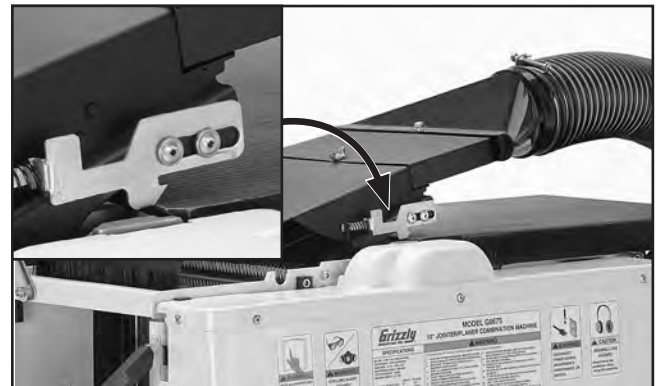

Figure 19. Dust chute catch disengaged.
11. Swing the dust chute assembly clockwise over the cutterhead and rest the catch lever on the infeed table, as shown in **Figure 19**.